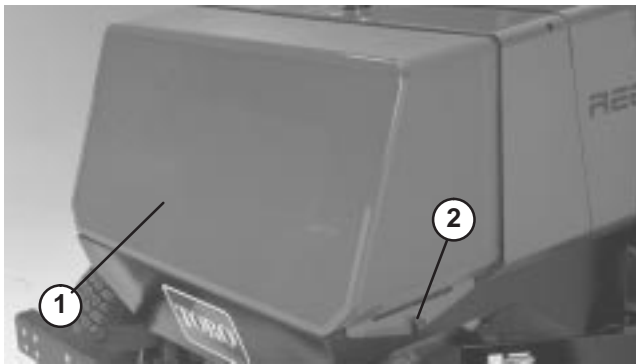

Figure 36
2. Remove knobs securing rear screen to frame and remove screen (Fig. 36).